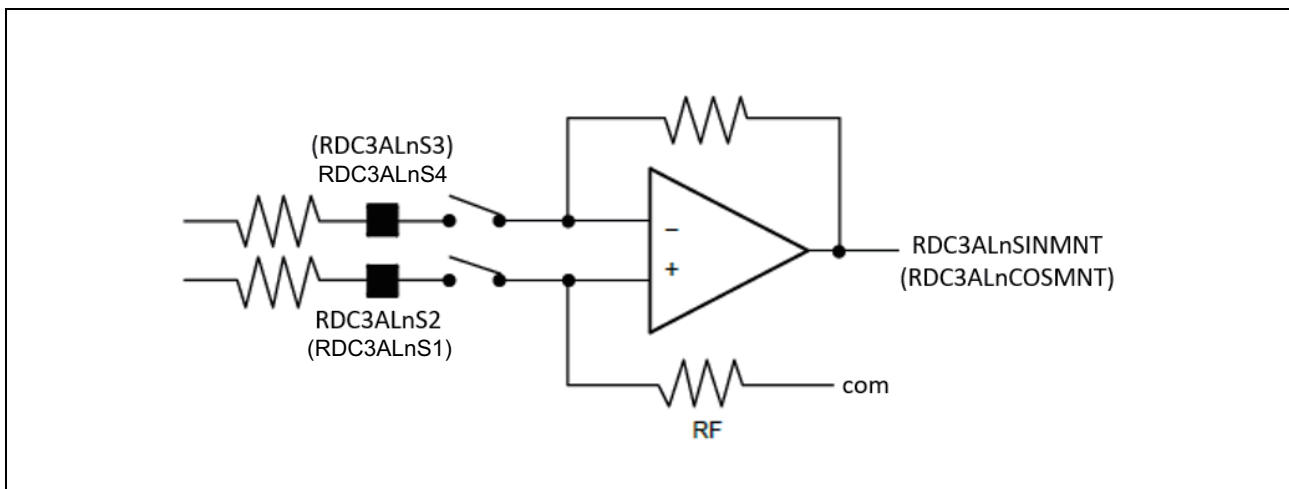

Figure 49.16 RDC3ALnS1, RDC3ALnS2, RDC3ALnS3, RDC3ALnS4 Pins on Detection of Power/Ground Short Error
1. The RDC3ALnS1, RDC3ALnS2, RDC3ALnS3, and RDC3ALnS4 pins are disconnected from the PGA input circuit (**Figure 49.16**).